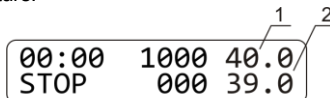

Figure 4. Display after calibration:
- 6.5. The display will show calibrated temperature as shown on fig. 4/1 and the unit will continue thermal stabilization according to the previously set temperature.